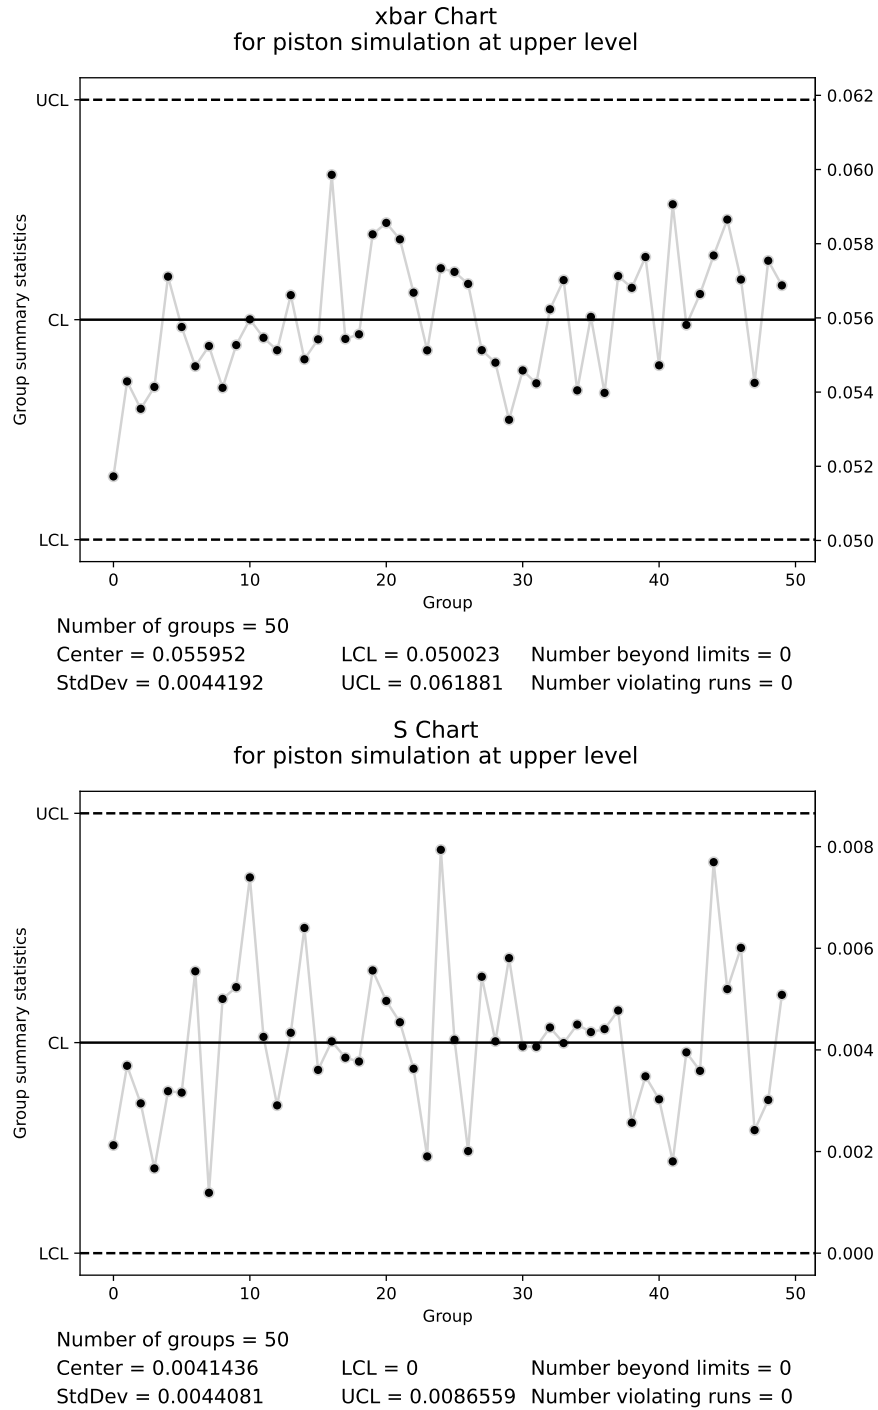

Fig. 3.1:  $\bar{X}$  and  $S$ -chart of simulated Piston data (Exercises 3.5 and 3.6)
The test shows no significant runs. The resulting  $\bar{X}$  and  $S$ -charts are shown in Fig. 3.1.
**Solution 3.6 (i)** See solution of Exercise 3.5 for this part of the exercise. Fig. 3.1 shows the resulting control charts.